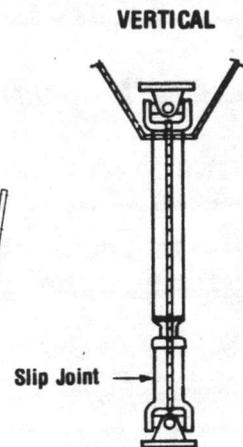

Fig. 4
- For VERTICAL INSTALLATIONS additional protection must be provided in order to eliminate the possibility of drive shaft from coming apart at the Spline connection (SLIP JOINT). Fig. 4